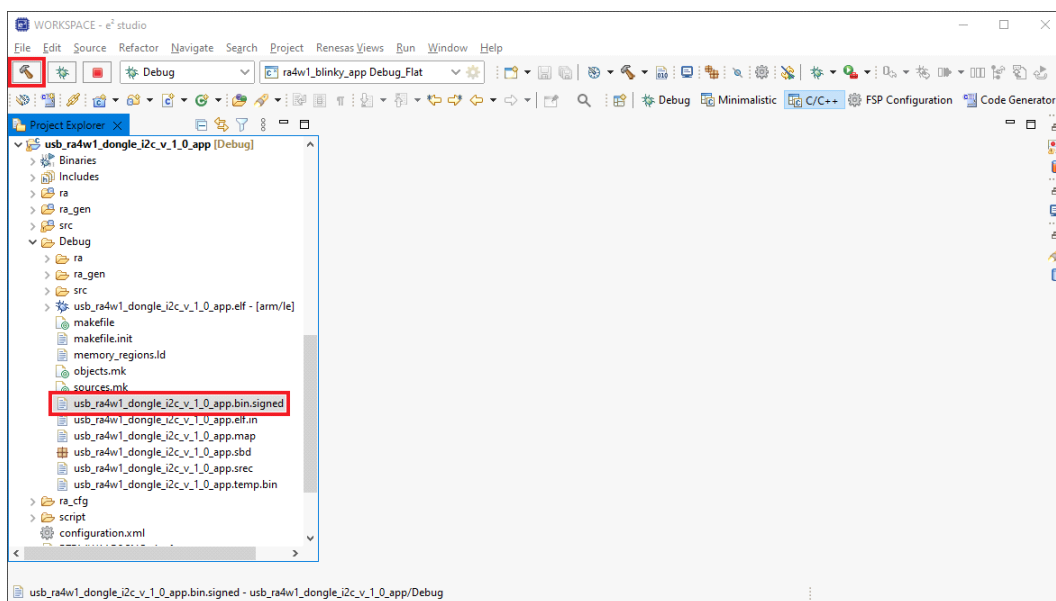

Figure 28. Generating the Application Image
17. Verify the project is active (selected in the Project Explorer). From the top menu, select **Project > Build Project** and wait until the process completes (Figure 28). In the Project Explorer, expand the **Debug** folder. The generated application image binary file is under the name format **<app_project_name>.bin.signed**. From this location, it can be directly copied to a known location.